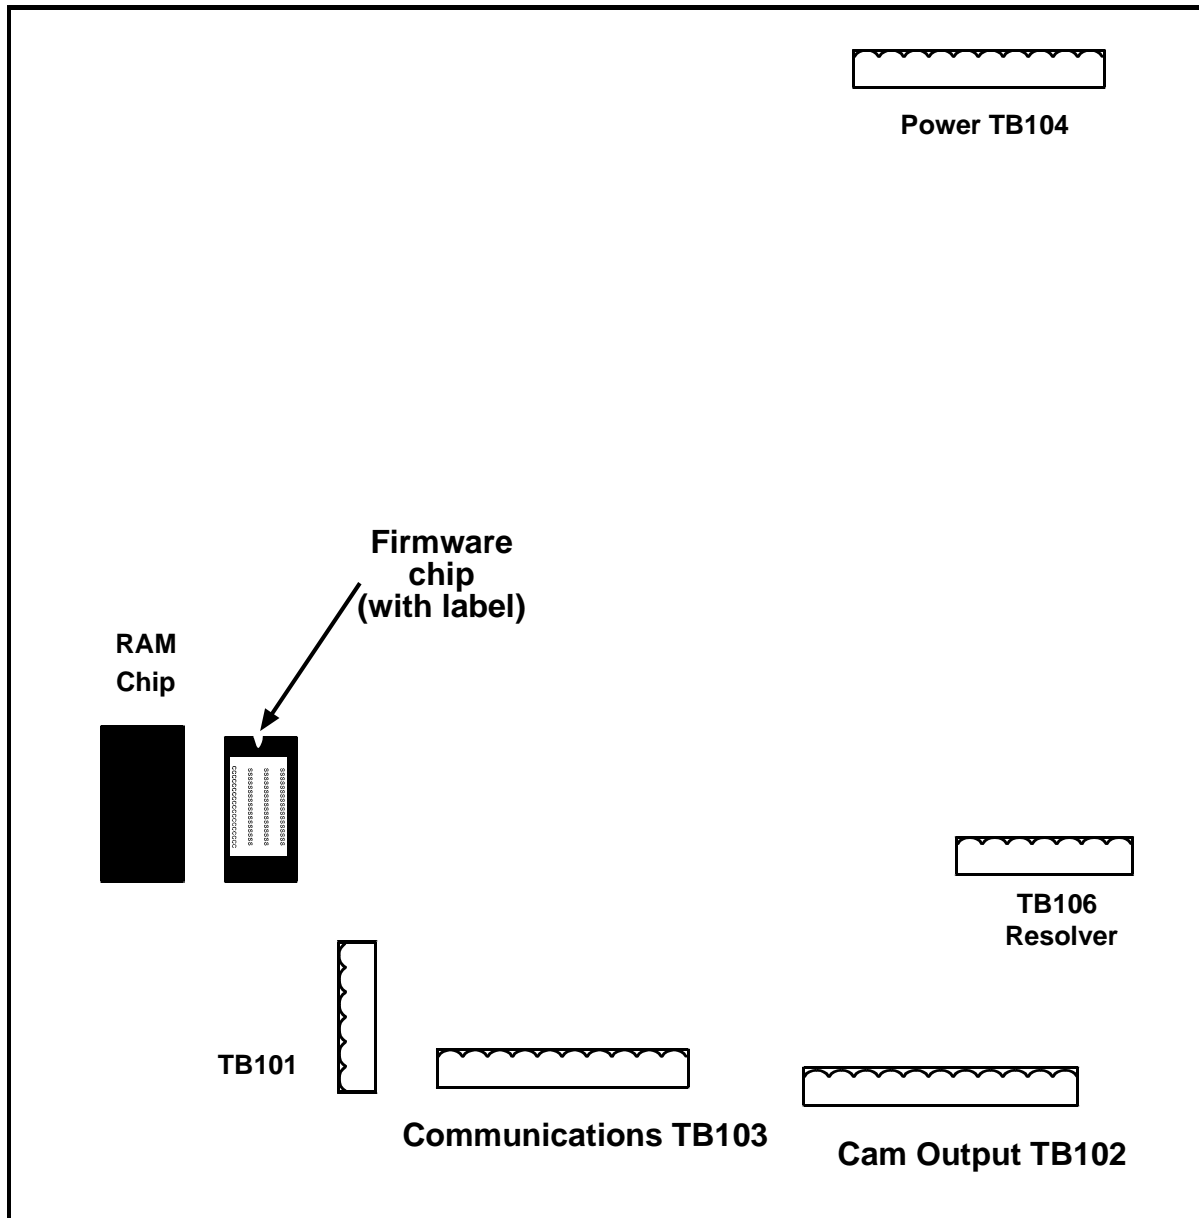
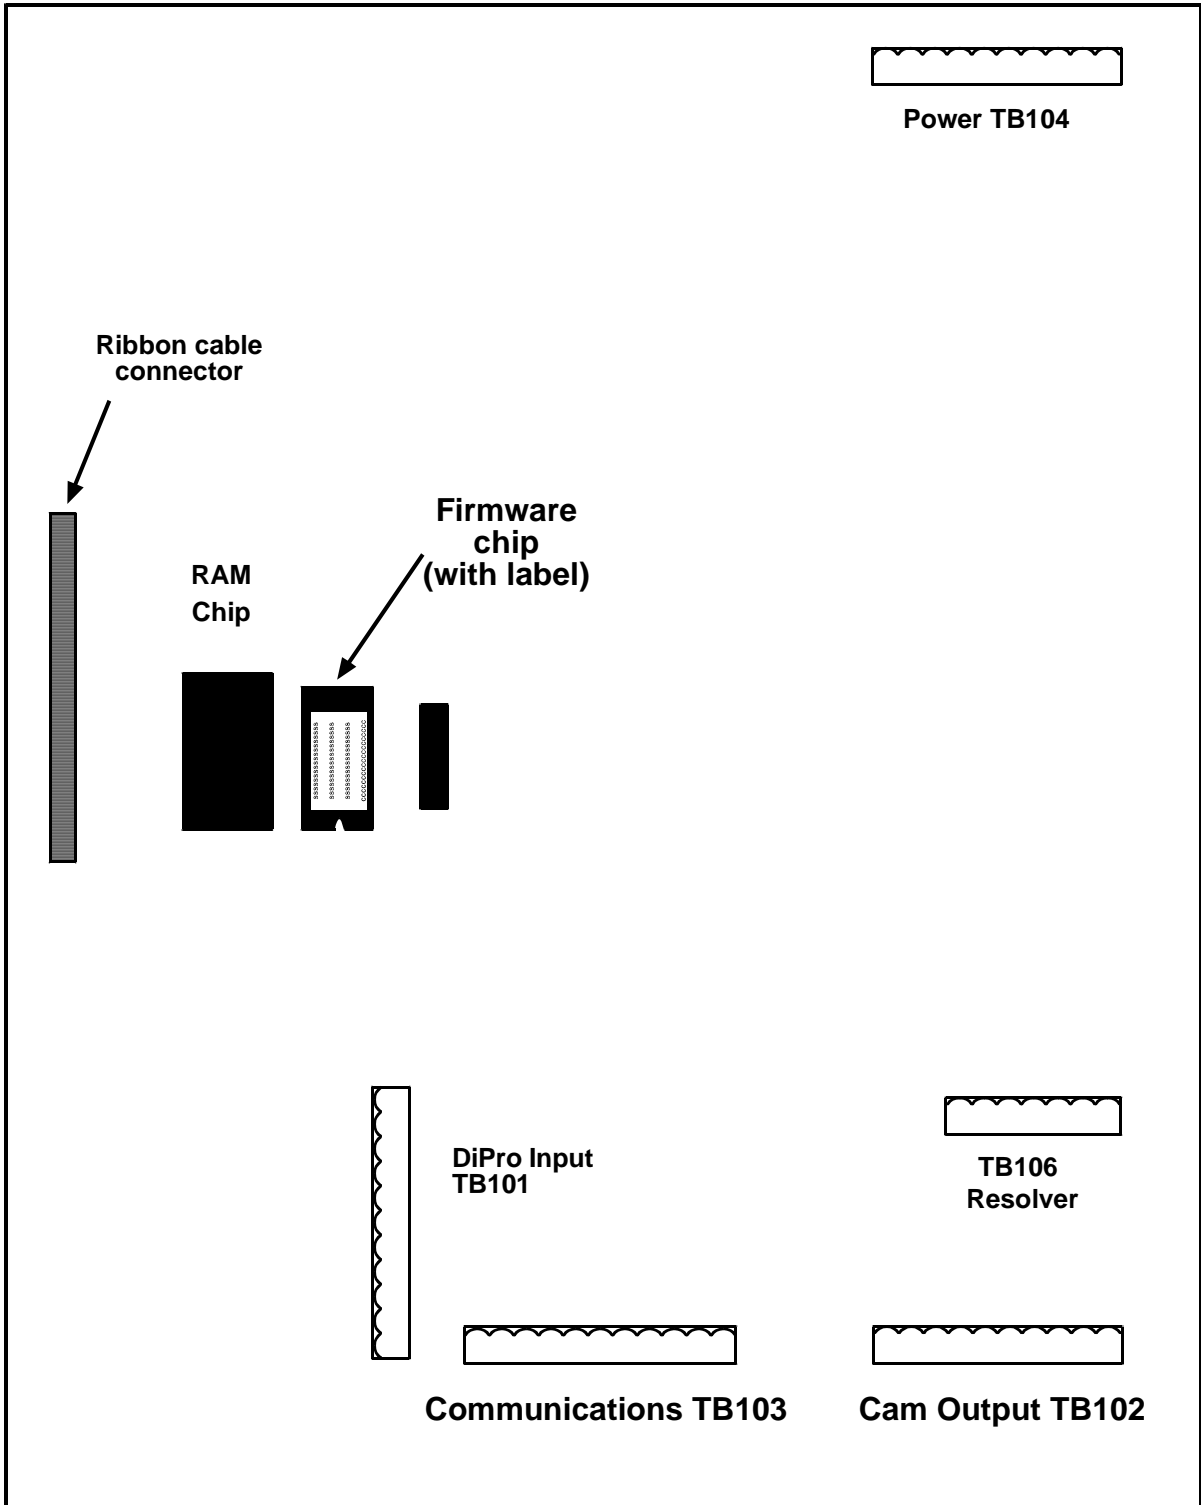

Figure 2-3. ProCam 1500 Processor Board: Location of Important Components (Back Side of Panel Mount)
Figure 2-4. DiPro 1500 Processor Board: Location of Important Components
2. Making sure that you are grounded, open the 1500 enclosure and find the firmware chip on the processor board (see Figure 2-3, next page, for chip location on the ProCam 1500 processor board and Figure 2-4, page 15, for chip location on the DiPro 1500 processor board). Note the orientation of the notch on the chip.
The white label on the firmware chip provides ProCam 1500 (see Figure 2-3) or DiPro 1500 (see Figure 2-4) firmware identification information, including version number.
3. Open the 1500 enclosure and locate terminal TB103 on the ProCam 1500 or DiPro 1500 processor board (see Figure 2-3 or Figure 2-4).